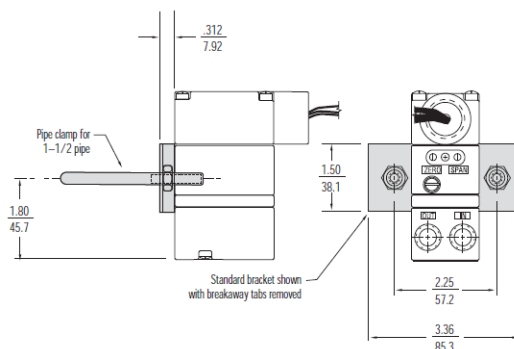

Figure 2 – Standard 1 1/2" Pipe Mount
- 2.3.4 1 1/2" Pipe: Attach bracket to transducer using two 10-32 holes on the back of the unit. Place U-bolt around pipe and through bracket. Place nuts on U-bolt and tighten (see figure 2).